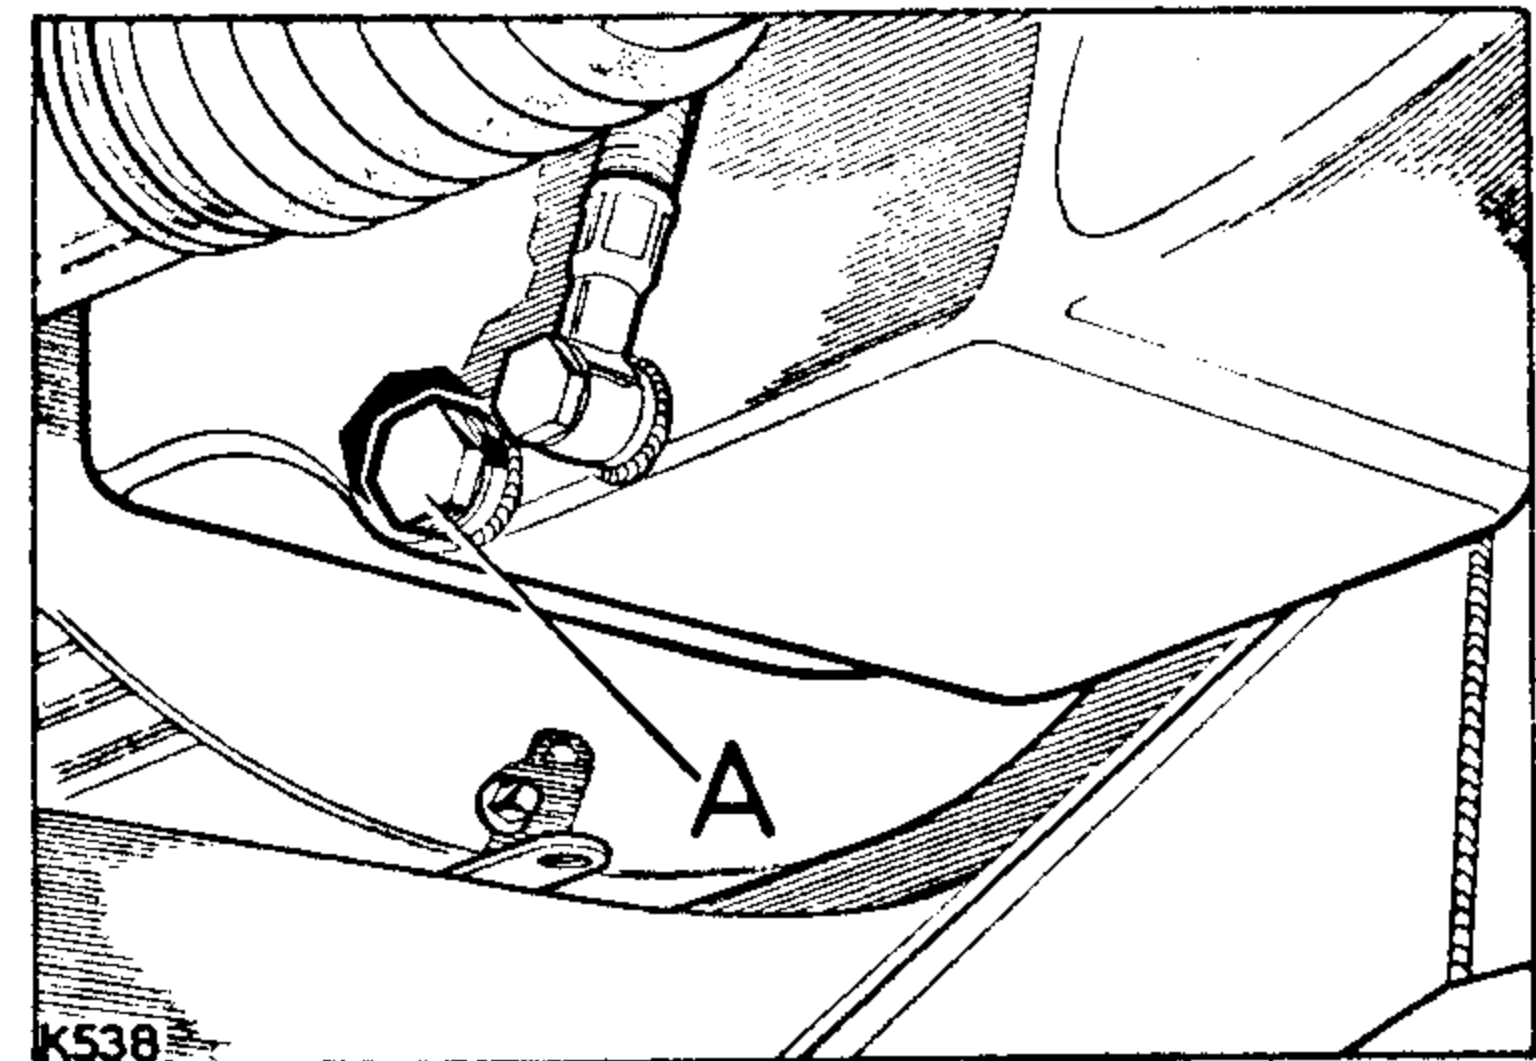

Fig. 2. Engine sump drain plug
Run the engine to warm up the oil, then stop. Remove the drain plug (A) Fig. 2 in the right-hand side of the sump. Allow oil to drain away completely and replace the plug.